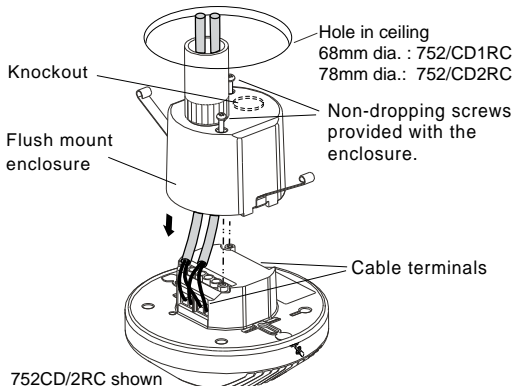

Figure 5. Placement of cables and components
1. Cut the appropriately sized hole in ceiling board (Figure 5) and then pull the power cables through the hole.
2. If you need a second conduit connection, use a screwdriver to remove the second knockout from the flush mount enclosure. Refer to Figure 5.